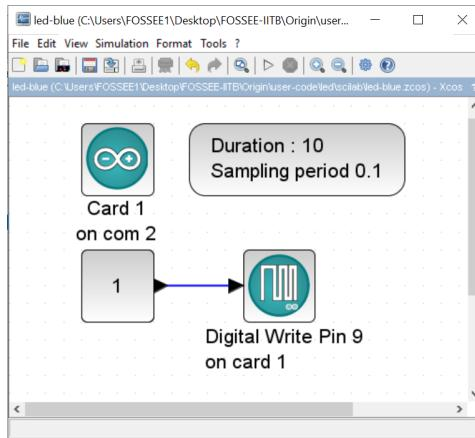

Figure 4.6: Turning the blue LED on through Xcos. This is what one sees when `origin/user-code/led/scilab/led-blue.zcos`, see Footnote 2 on page 2 is invoked.
1. First we will see how to turn on the blue LED. When the file required for this experiment is invoked, one gets the GUI as in Fig. 4.6. In the caption of this figure, one can see where to locate the file.